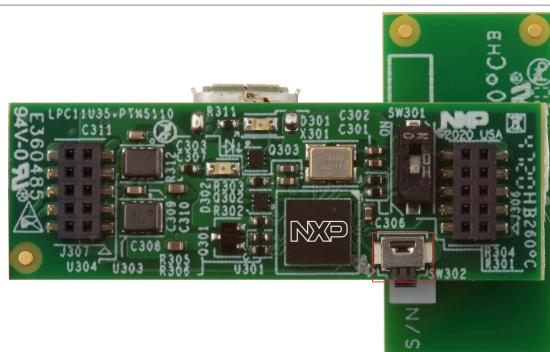

Figure 30. SW302 ISP switch identified on an assembled PTN3944 PCIe/LPCUSBSIO module
3. Locate SW302 ISP switch on the Sniffer Based Board, and hold it down while plug in the micro USB cable to the PC. See Figure 30.
5. While holding the SW302 ISP switch, plug in the micro USB cable to the PC. See Figure 30.